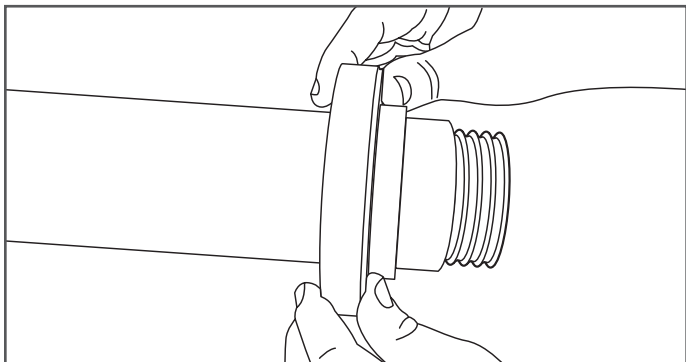

Figure 8-9
9. Remove back section of DoubleTrac® fitting (Figure 8-9).